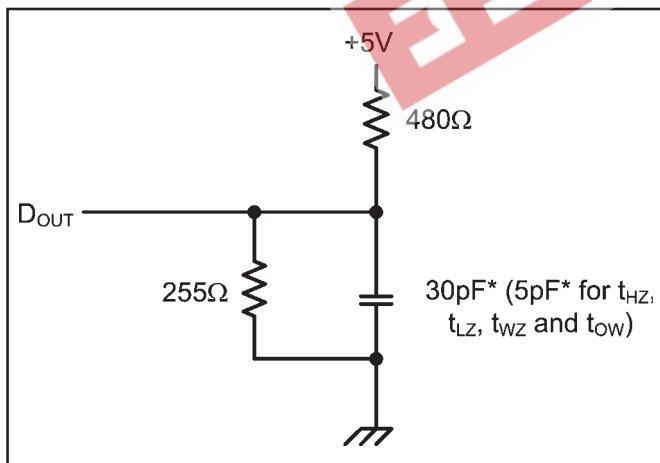

Figure 1. Output Load
- 7. Transition is measured  $\pm 200\text{mV}$  from steady state voltage prior to change with specified loading in Figure 1. This parameter is sampled and not 100% tested.
12. Transition is measured  $\pm 200mV$  from steady state voltage prior to change with specified loading in Figure 1. This parameter is sampled and not 100% tested.
Output Load	See Figures 1 and 2